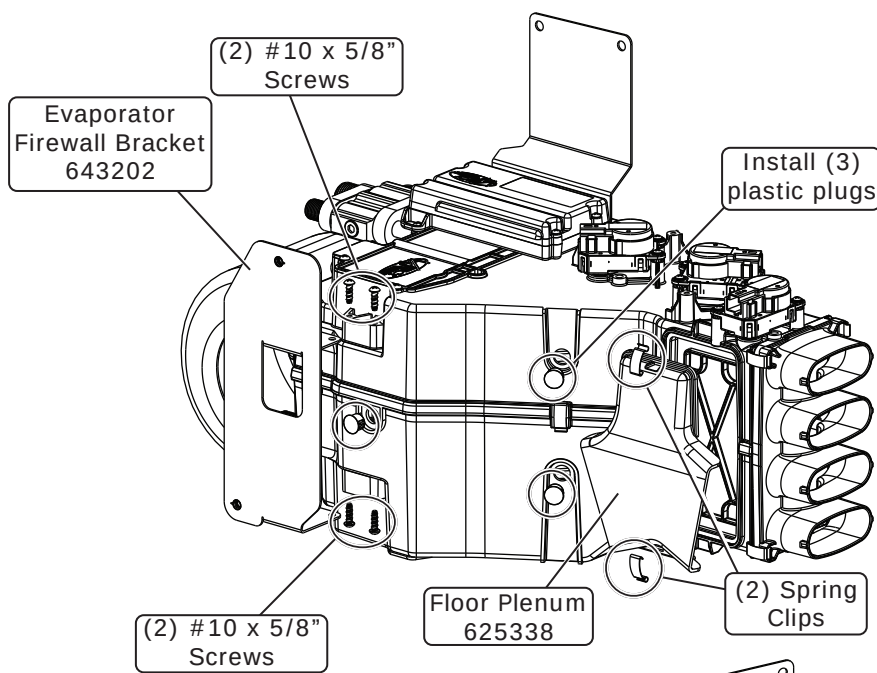

Figure 2
5. Install (3) plastic plugs in the locations shown in Figure 2, below.
6. Install the floor plenum onto the evaporator module using (2) spring clips (See Figure 2, below).
7. Install the evaporator firewall bracket onto the evaporator module using (4) #10 x 5/8" screws (See Figure 2, below).